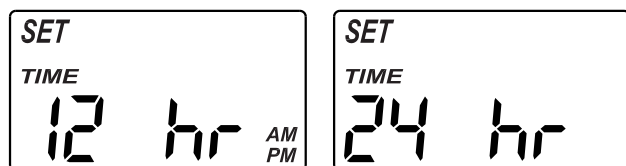

FIG. 30
2. Press the SELECT button four times, so that “12 hr” or “24 hr” flashes in the display (See Figure 30).